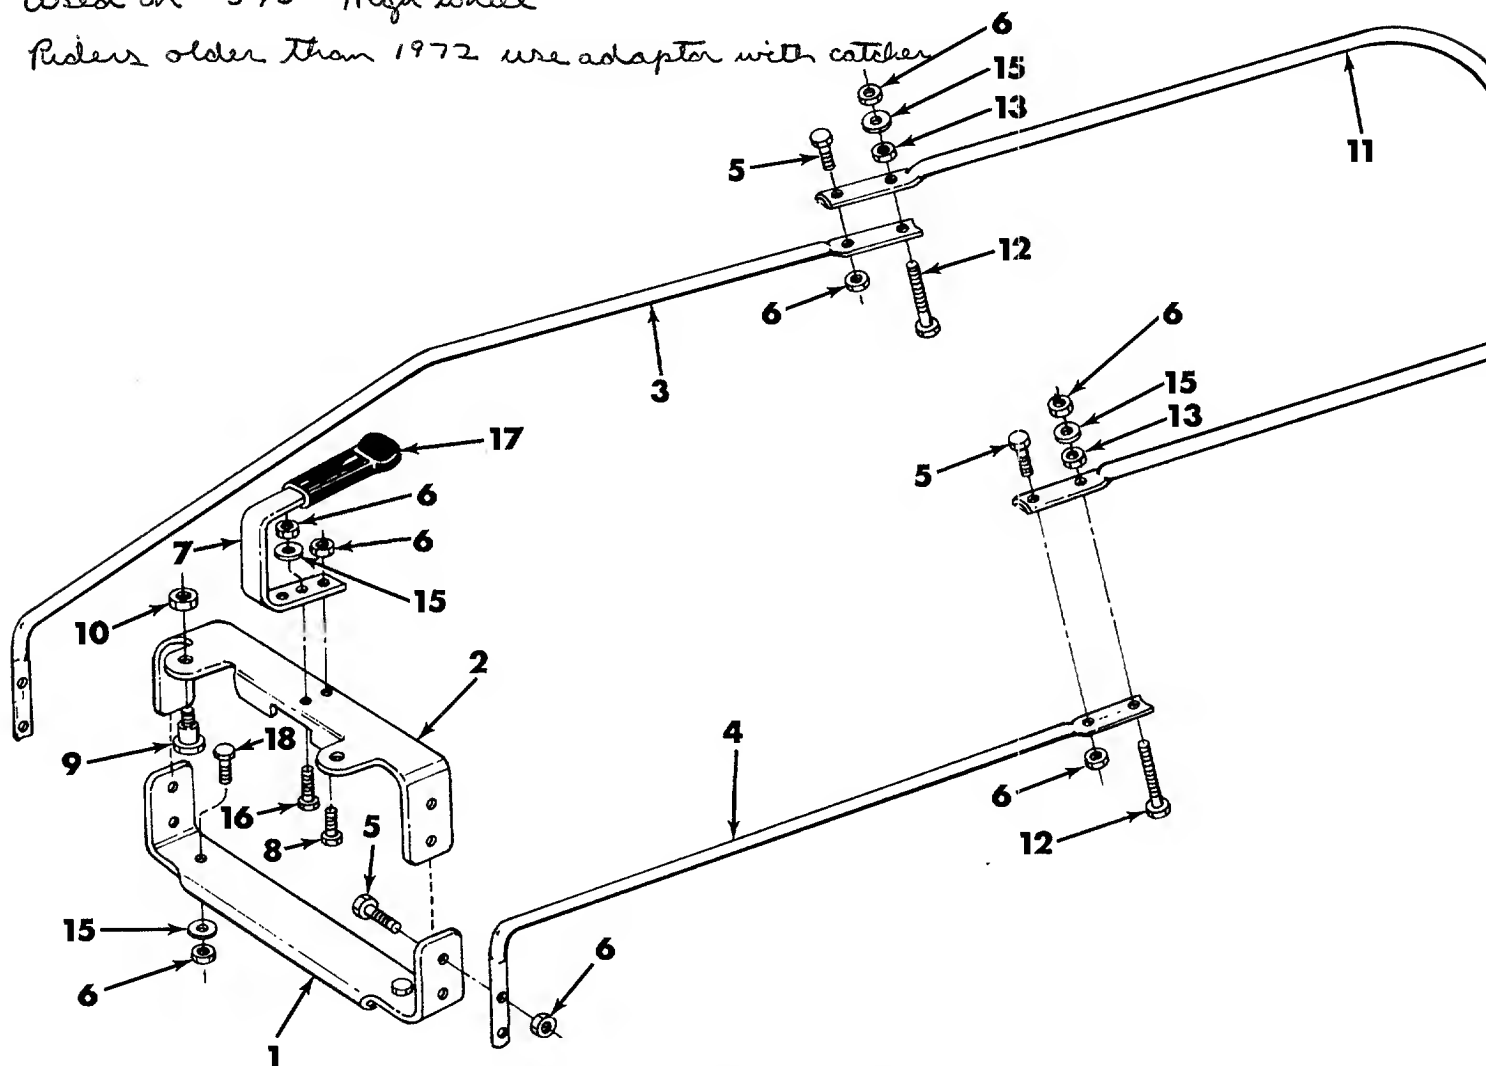

FIGURE 1. FRAME ASSEMBLY
3. The shoulder bolt (9) is attached to the upper opening support (1) with the 5/16" locknut (10) on top as shown in figure 1.
4. The upper frame (11) attaches to the two lower frame arms (3 & 4) using the 1/4 x 1.25 Lg. bolt (12) and free nut (13) in the rear hole. The head of the bolt goes on the bottom as shown in figure 1. Use 1/4 x .88 Lg. bolt (5) and locknut (6) in the front hole.
5. Slide the elastic opening end of the grass bag (14) over the upper frame and into position.
6. The 1/4 x 1.25 Lg. bolt (12) goes through the eyelets in the center of the bag. Place one flat washer (15) over each bolt and secure it with a locknut (6).